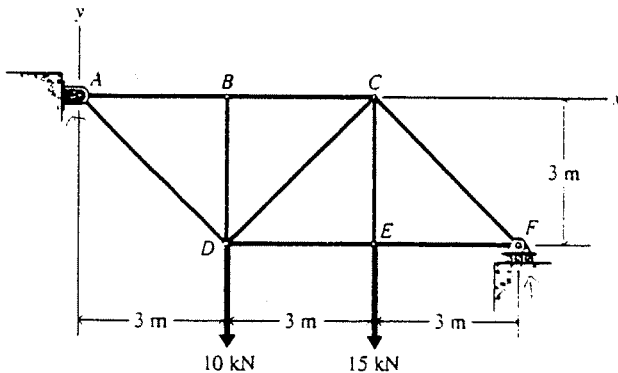

Fig. 3
- (3) Determine the forces in members *BC*, *BD*, *CD* and *CE* of the truss shown in Fig. 3. (25 marks)